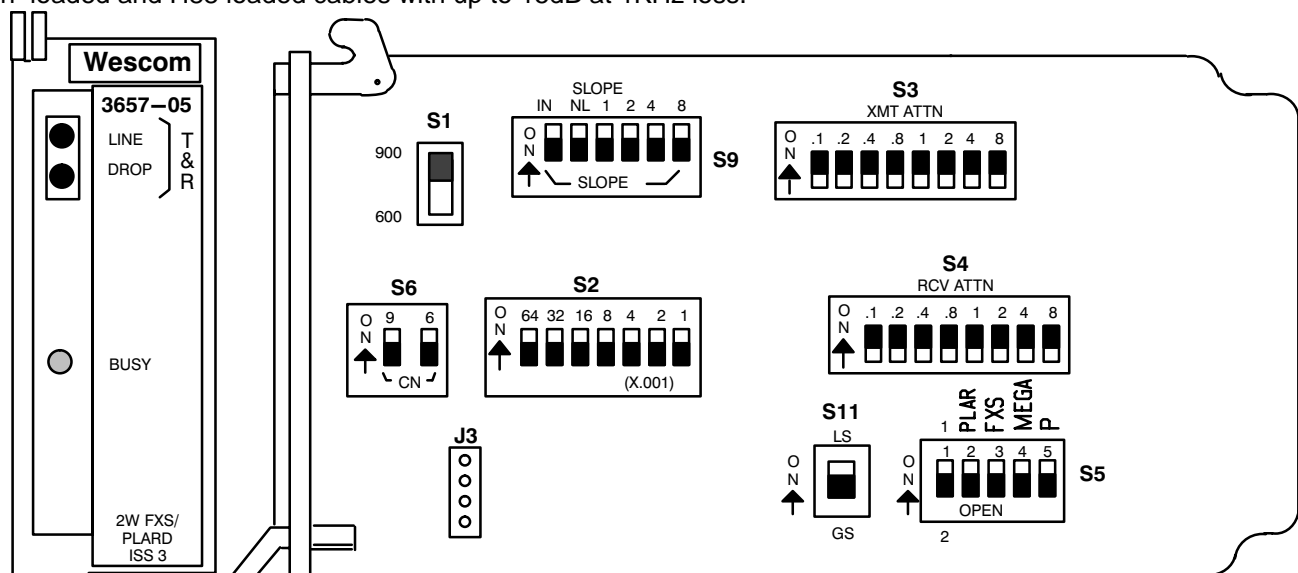

Figure 6. 3657–05 2W FXS/PLARD (Issue 3) Option Locations
10.	The optional 3690–1X PBN can be ordered separately and inserted in Connector J3 when more precise hybrid balancing is required. Refer to Figure 6.
17.	Upon carrier group alarm, the TG and R relays are immediately idled. With Option S5–5 (P) in the ON position, the TG relay will be activated approximately 2.5 seconds later.
Refer to Figure 6 for option locations and conditioning requirements.